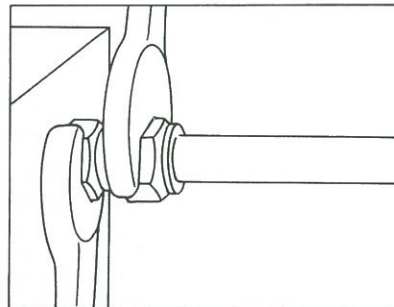

Fig. 3
d) Holding hexagon of BI-Lok body rigidly by a spanner, screw nut tightly by a spanner as shown in the table below. (Fig. 3)